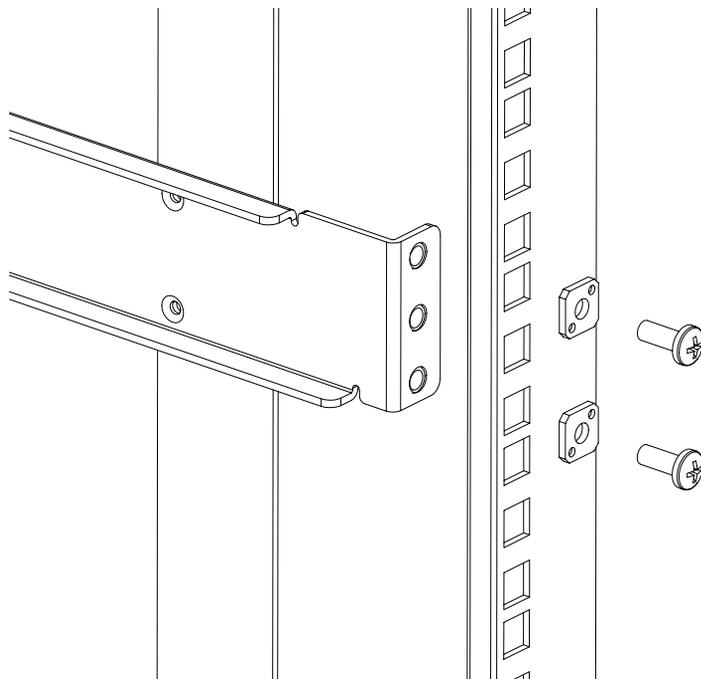

Figure 5: Assembling the outer rails (HP 9000 Series or comparable EIA rack)
- For an HP 9000 Series or comparable EIA rack, install two #10-32 x 1/2-inch Phillips pan-head screws with captive star lock washers and two #10 adapter washers in the upper and lower hole locations of the right rail. Then install two #10-32 x 1/2-inch Phillips pan-head screws with captive star lock washers and two #10 adapter washers in the upper and lower hole locations of the left rail. See Figure 5.